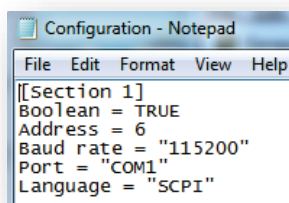

Figure 19
- 2.2 Pre-Defined setup will be loaded from Configuration.ini file. File could be edited manually prior activation. Pre-Configured parameters should be adapted according to the required communication parameters, refer to Figure 19, section 1.5 under Virtual front Panel (VFP) Controls.
- 1.4. INI File Setup (4), select the function to run script pre-configuring application parameters. Running Configuration.ini file skips communications' setting procedure. Refer to Figure 19 for a script example.